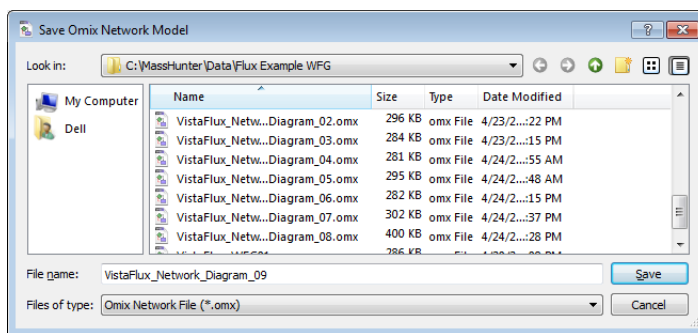

Figure 143 Save Omix Network Model dialog box
- Enter a descriptive name and a sequential number for the **File name** (Figure 143).